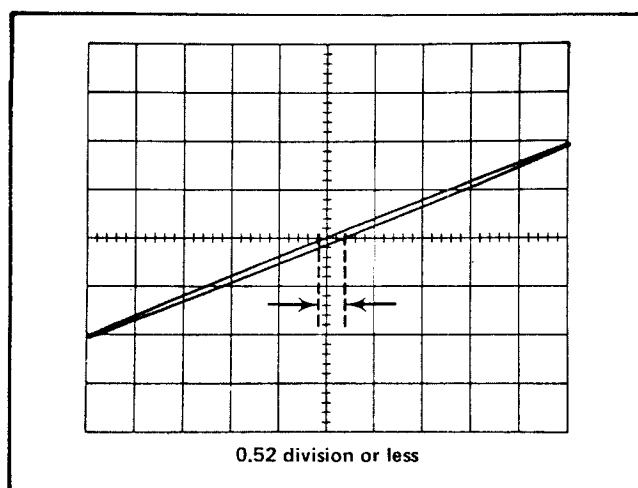

Fig. 5-2. Typical CRT display when checking X-Y phasing.
e. CHECK—CRT display for an opening at the center horizontal line of 0.52 division or less ( $3^\circ$  or less phase shift; see Fig. 5-2).